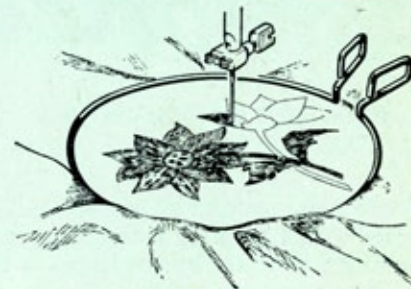

Fig. 56
- Move hoop slowly and rhythmically, but only when needle is out of fabric and holding both threads for the first stitches (Fig. 56)